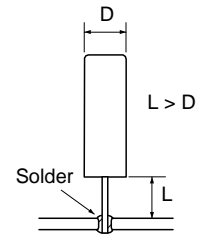

Figure 7
- (2) Always leave a length greater than the case diameter when bending a lead after soldering (see Figure 7).